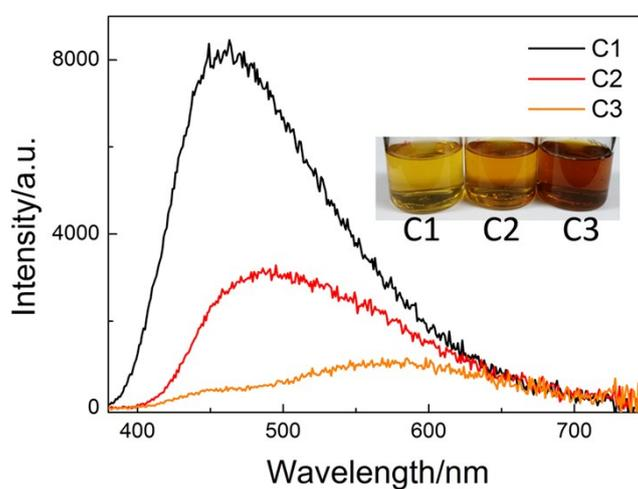

Figure S3. PL spectra of the CQDs precursor solutions with different ultrasonic time. The inset is the color of the solutions.
Photoluminescence (PL) spectra: The PL spectra of the CQDs precursor solutions are shown in Figure S3. It can be seen that the PL intensity of the CQDs solution decreases while the main emission wavelength has a red shift as the ultrasonic time increases, which may due to the increased diameter of the as-prepared CQDs. ¹ The PL spectrum of C3 has a broad emission at 450, 500 and 580 nm, indicating the mixture of CQDs with different size. The inset of Figure S3 shows the color of the CQDs precursor solution.